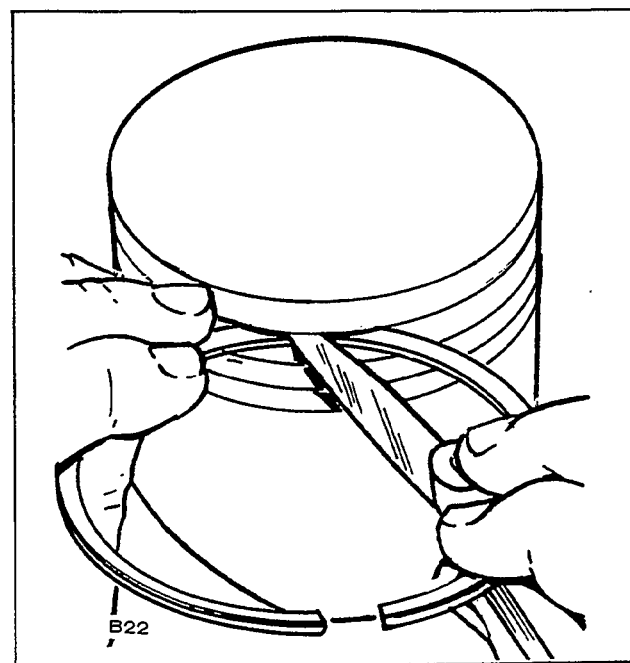

FIGURE 32. CHECKING RING SIDE CLEARANCE
- a. Inspect the pistons for fractures at the ring lands, skirts and pin bosses. Check for wear at the ring lands using a new ring and feeler gauge as shown in Figure 32. Replace the piston when the side clearance of the top compression ring reaches 0.004 inch.